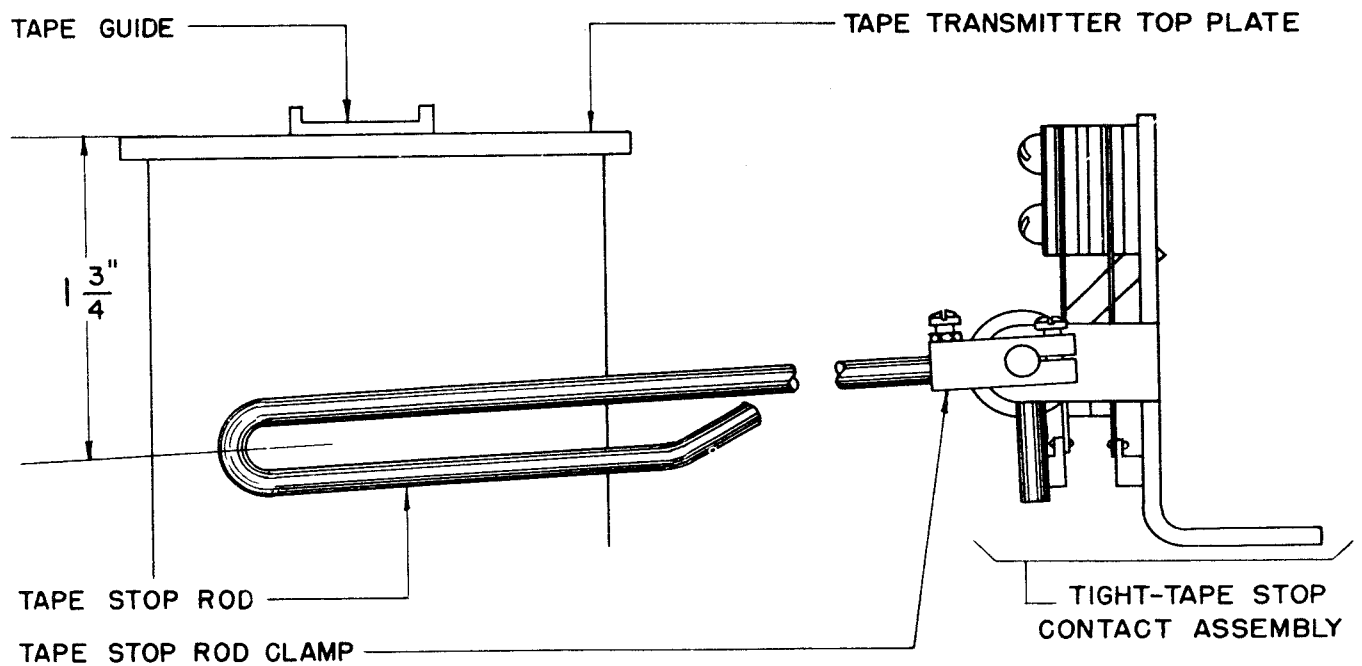

Figure 33
Note: These requirements apply also to the type illustrated in Figure 33.
6.06 When the contacts are held closed by the contact operating post, the distance between the top surface of the transmitter top plate and the middle of the bend in the tape-stop rod shall be $1\text{-}\frac{3}{4}$ inch $\pm\frac{1}{16}$. (See Figure 33.)